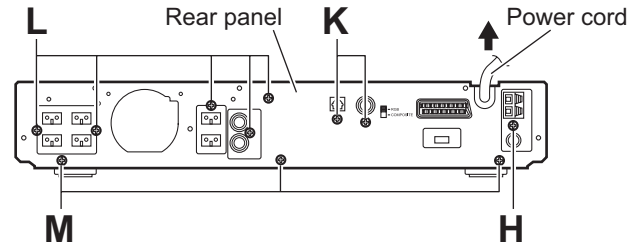

Fig.11
3.1.7 Removing the rear panel (See Fig.11)